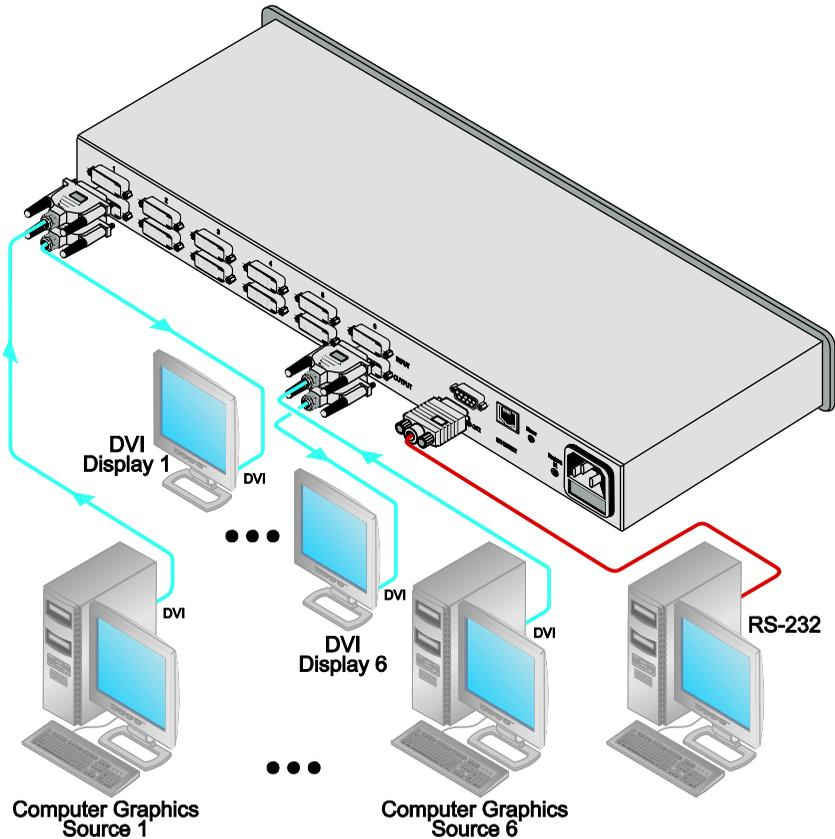

Figure 2: Connecting the VS-66HDCP 6 x 6 DVI Matrix Switcher
To connect the **VS-66HDCP**, as the example in Figure 2 illustrates, do the following1:
4. Connect the power cord (not shown in Figure 2).